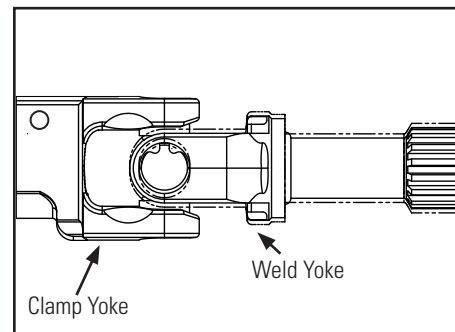

Figure 2 - Locating the weld yoke
3. Locate the weld yoke of the universal joint assembly. The universal joint assembly consists of two yokes, a weld yoke and a clamp yoke. The clamp yoke utilizes a clamp bolt to secure the assembly to a spline shaft. The weld yoke is welded to the main body of the intermediate column. **See Figure 2.**